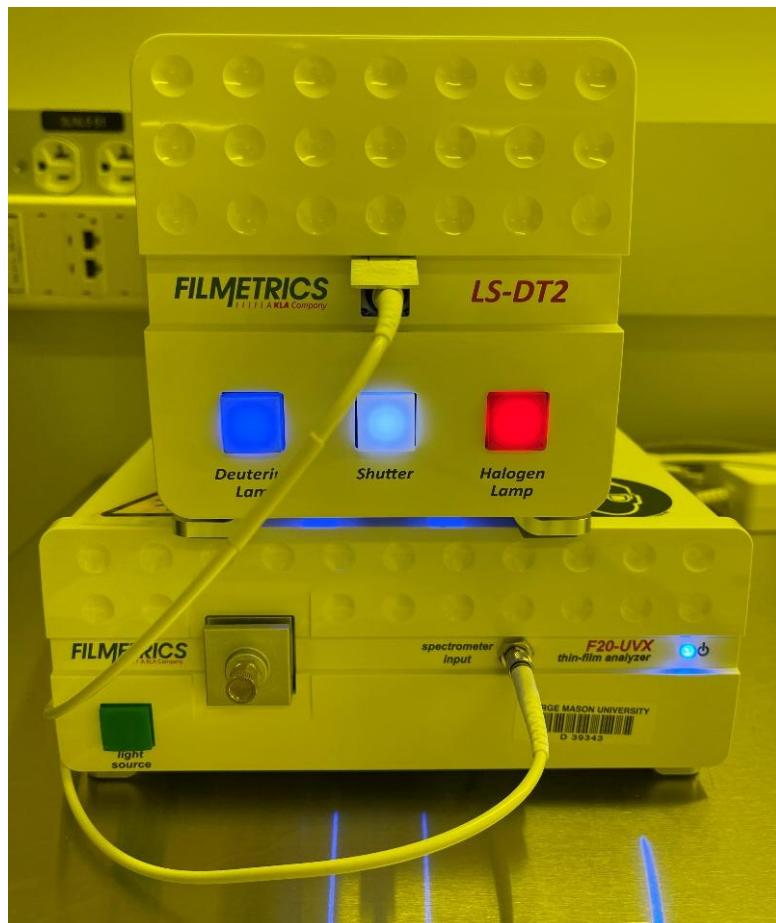

Figure 2. F20-UVX Setup in the Nanofabrication Facility
1. Turn on the F20-UVX by pressing the buttons for the light source, deuterium lamp, shutter, and halogen lamp, as shown in Figure 2. (For photolithography purposes, it is recommended to keep the deuterium lamp off.) Before starting any experiment, ensure the light bulb has been on for 5 minutes.
26. Turn off the F20-UVX by pressing the buttons for the light source, deuterium lamp, shutter, and halogen lamp as shown in Figure 2.